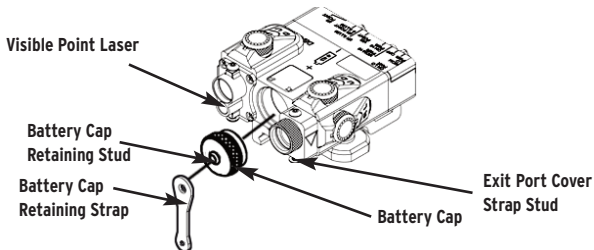

Figure 3. Battery Cap Retaining Strap Replacement
1. Unscrew Battery Cap (Figure 3) by turning counter clockwise.
2. Pull Battery Cap Retaining Strap (Figure 3) off over the Battery Cap Retaining Stud (Figure 3) on the Battery Cap (Figure 3).
3. Pull the other side of the Battery Cap Retaining Strap (Figure 3) off over the Exit Port Cover Strap Stud (Figure 3) below the Visible Point Laser (Figure 3).
1. Stretch one end of the Battery Cap Retaining Strap (Figure 3) over the Exit Port Cover Strap Stud (Figure 3) below the Visible Point Laser (Figure 3).
2. Stretch the other end of the Battery Cap Retaining Strap (Figure 3) over the Battery Cap Retaining Stud (Figure 3) on the Battery Cap (Figure 3).
3. Replace Battery Cap (Figure 3) and turn clockwise to tighten.